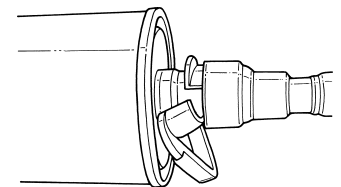

Figure 2
2. Twist the other end of the tool, and completely insert it into the connector. See Figure 2.